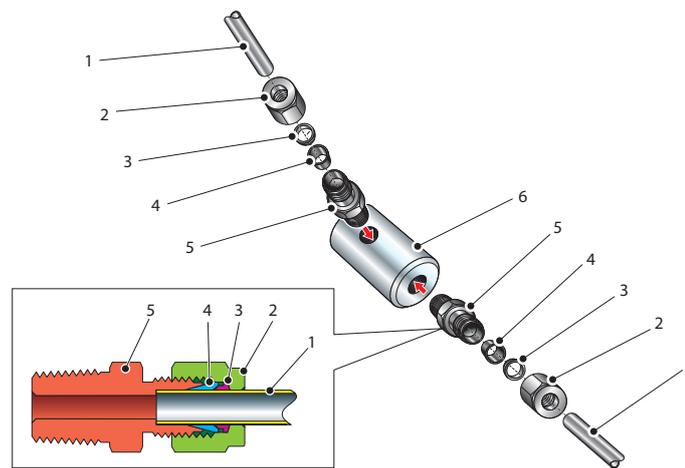

Figure 12 Sample Block Gas Connections
Sample gas connections are made to the Gas In and Gas Out ports on the sample block see *Figure 12*. Either port on the sample block may be used as the Gas Input port (i.e. for connection purposes the ports are interchangeable).
Both the Input and Output gas connections are $\frac{1}{8}$ " NPT. It is recommended that both the Gas Input and Output connections are made via $\frac{1}{8}$ " NPT to 6mm or $\frac{1}{8}$ " NPT to $\frac{1}{4}$ " stainless steel tube adaptors (2 to 5 - Figure 12). The method of connection to the sensor block (6) is as follows: